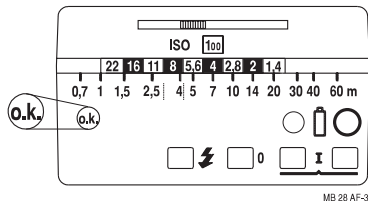

Fig. 3: Exposure o.k. and maximum range
4.3 Correct-exposure indication (see fig. 3)
Example: With ISO 100 and f/4 the maximum flash range is 7 m (see fig. 3). The minimum lighting distance equals approximately 15% of the maximum flash range.